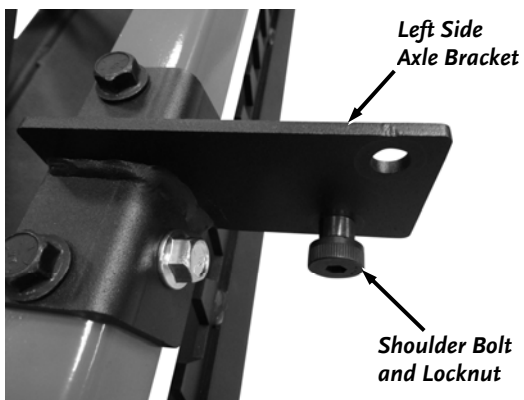

Figure 19
23. Install a 1/2" X 3/8"L, 3/8-16 Shoulder Bolt (head facing left, towards outside of machine) and Locknut to the left side Axle Bracket using a 1/4" Allen Wrench and 9/16" Wrench (**Figure 19**).